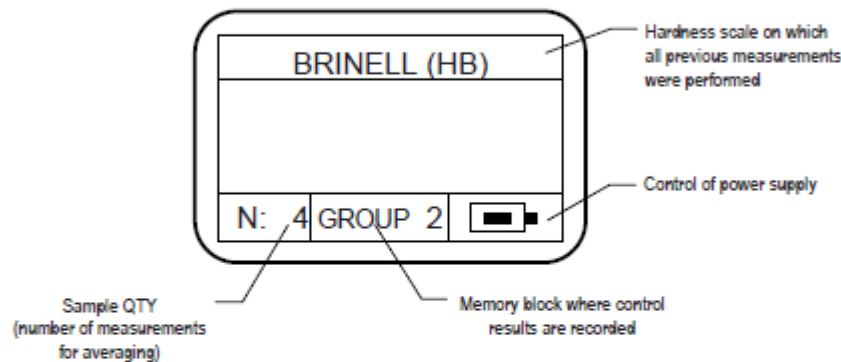

Figure 3
2.1.3 Activate the hardness tester momentarily pressing the «**⊕**» button. The graphic display will look like it is shown in Fig.3